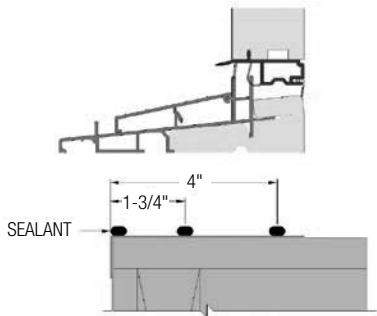

FIG. 9: 4-9/16" & 6-9/16" IN-SWING PATIO DOOR SILL
- Apply three 1/4" continuous beads of silicone across the entire width of the rough opening. Note that the locations are different for each door type. Figure 9 shows the silicone location for a 4-9/16" and 6-9/16" in-swing door. The bead location will be different for other jamb sizes. (Fig. 9 & 10)